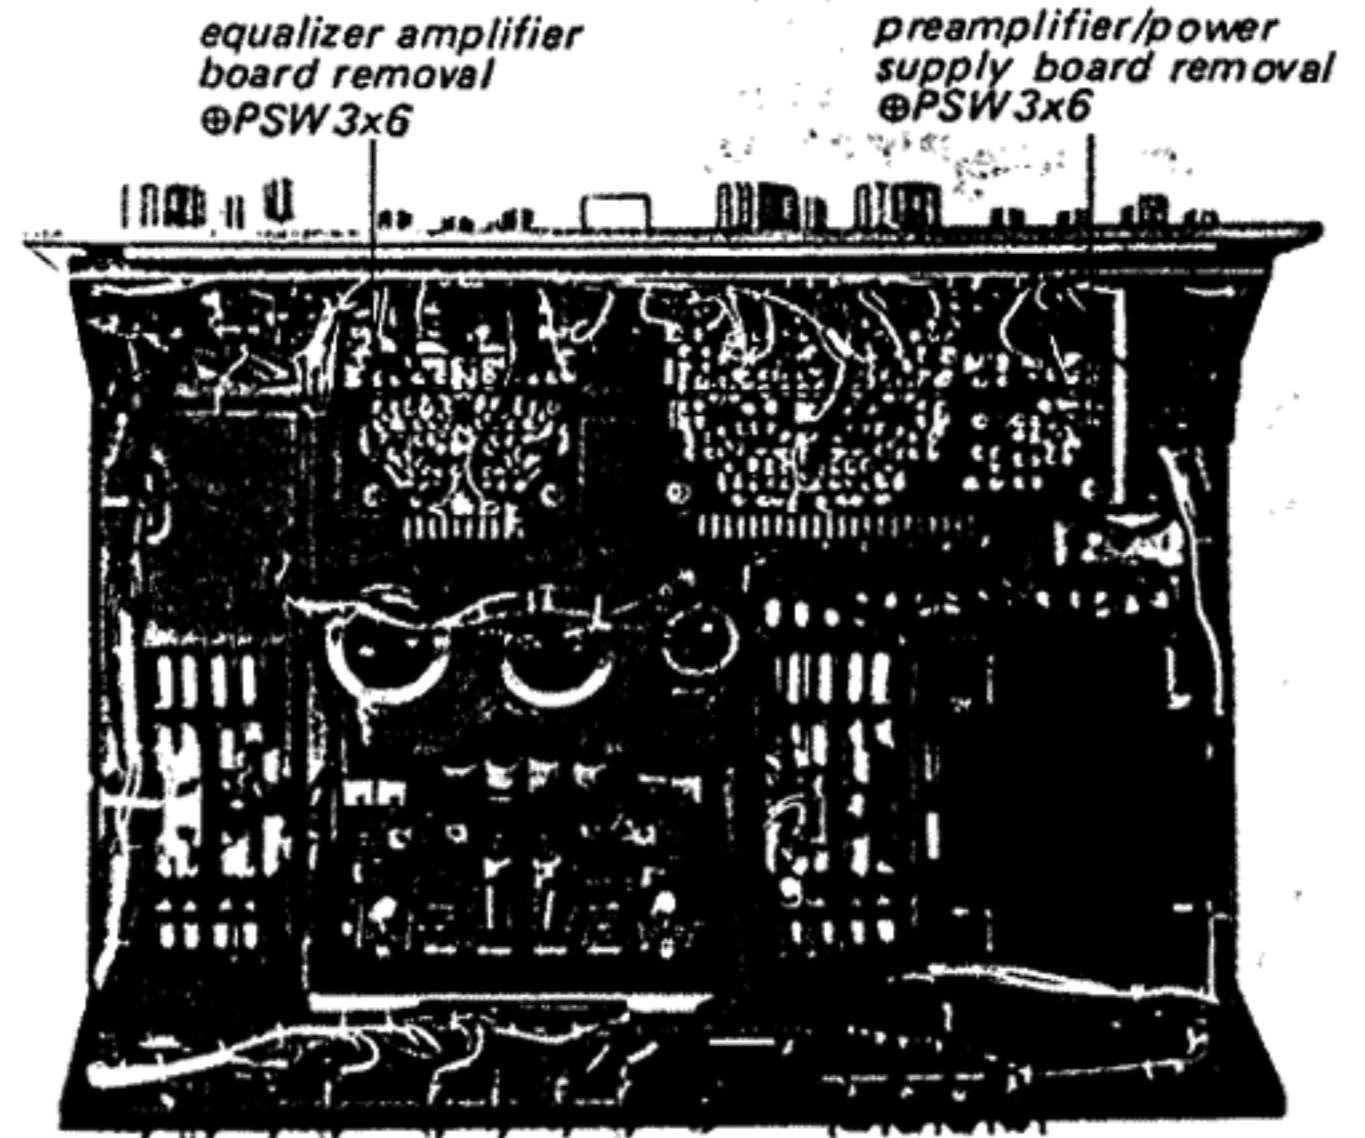

Fig. 2-6. PCB removal
2. Remove the two screws (⊕PSW 3x6) securing the Preamplifier/Power Supply circuit board to its mounting bracket as shown in Fig. 2-6.
1. Remove the two screws (⊕ PSW 3x6) securing the Equalizer Amplifier Board to its mounting bracket as shown in Fig. 2-6.